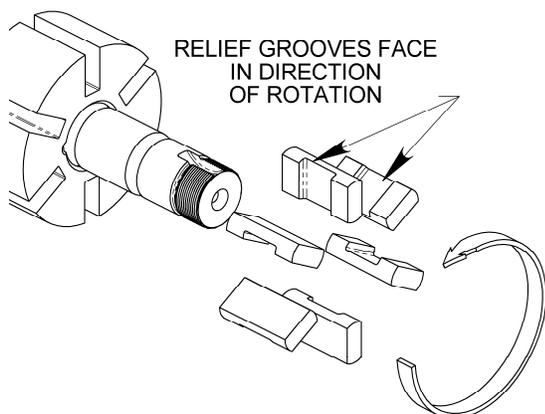

Figure 6 – Vane Replacement
2. If the pump shaft is protruding through the cylinder (12), remove the head assembly from the pump according to steps 4 - 8 in the "Pump Disassembly" section of this manual. If the pump shaft is protruding through the head (20), remove the entire pump from the mounting bracket (108 or 108B) (See Step 3 in "Pump Disassembly") then remove the head assembly from the pump according to steps 5 - 8 in the "Pump Disassembly" section of this manual.
3. Turn the shaft by hand until a vane (14) comes to the top (12 o'clock) position of the rotor. Remove the vane.
4. Install a new vane (14), ensuring that the relief groove is facing toward the direction of rotation. See Figure 6.
18. Insert the vanes (14) into the slots in the rotor, ensuring that the relief groove is facing toward the direction of rotation. See Figure 6
19. Apply a light coating of quality O-ring lubricant in the seal and bearing recess of the head (20) to facilitate mechanical seal (153) installation.
24. Align the notch in stationary seat (153B) with the anti-rotation pin in the head (20). Insert it into the seal recess with the polished face inward to mate with the rotating face.
25. Hand pack the ball bearing (24) with grease. Refer to "Lubrication" in the Pump Maintenance Section for the recommended grease.
26. Install the bearing (24) into the head recess. The bearing balls should face outward, with the grease shield inward. Ensure that the bearing (24) is fully and squarely seated against the mechanical seal (153).